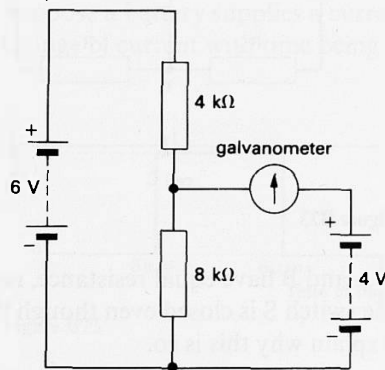

Figure B71
- 24(P)** In the circuit in figure B71, what is the current in the low-resistance galvanometer? (The batteries have negligible resistance.)